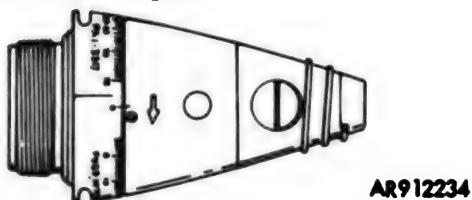

Figure 211.18. Mechanical time and superquick fuze M501A1.
d. **Fuze, Mechanical Time and Superquick, M501A1 or M501** (fig. 211.18). Fuze, M501A1 or M501 is a combination mechanical time and superquick fuze with settings for time action (2 to 75 seconds), and an impact element for superquick action but has no booster for detonation action. Do not use this fuze in any HE, WP, or gas projectile. When set for airburst, 20 percent fail to function with charge 1 and 10 percent with charge 2. Fuze will function on impact.